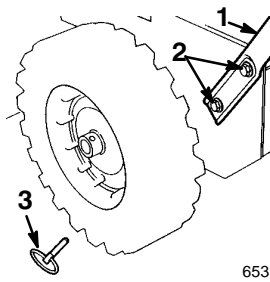

Figure 2
2. Remove the axle pins from both wheels (Fig. 2) and slide the wheels outward on the axle approximately one inch (2.5 cm).
- Secure the left handle with two capscrews and curved washers until they are finger tight (Fig. 2).